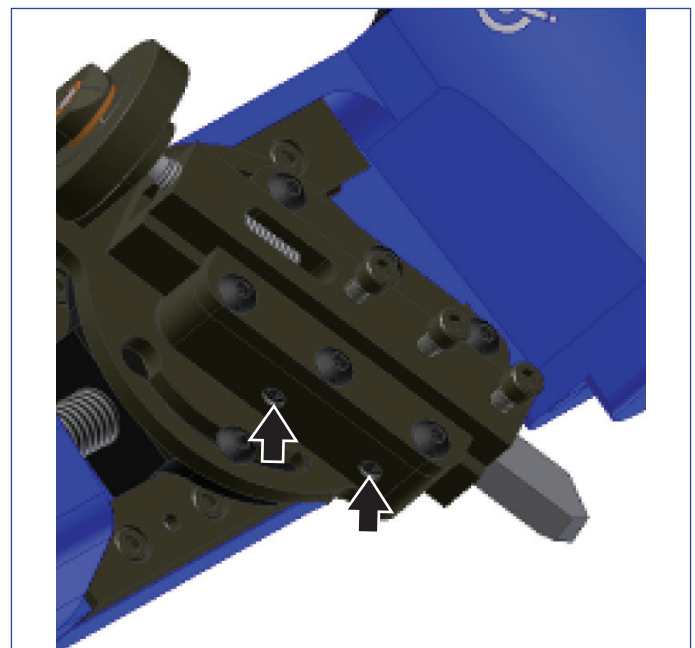

Figure 8
6. Remove any slop in the tool block by adjusting the tool block setscrews (see Figure 8). Slightly tighten or loosen the setscrews until the depth adjustment screw freely rotates but is not hard to turn.
Adjust brass tip setscrews (see Figure 8).